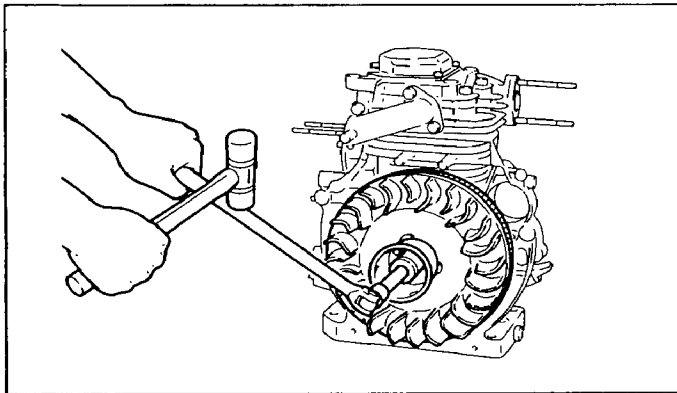
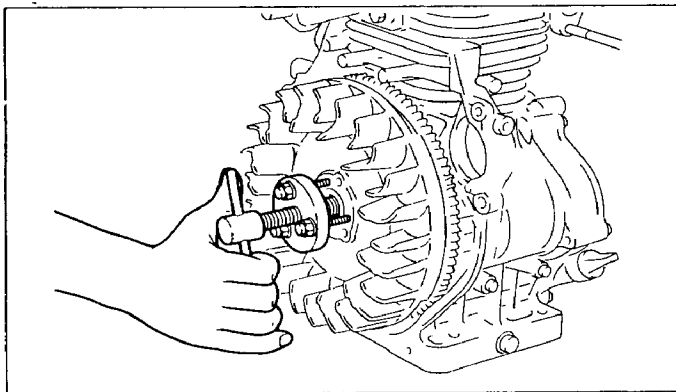
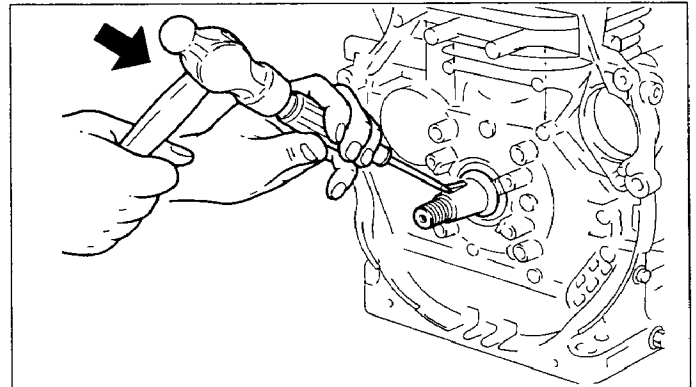

Fig. 26
Fig. 28
Fig. 29
| 18 | Flywheel | (1) Remove nut from crankshaft. M16 nut ···· 1pce. (See Fig. 26.) (2) Remove the starting pulley. M8 × 12mm bolt ···· 3pcs. (3) Remove flywheel using flywheel puller. (See Fig. 28.) (4) Remove the key from crankshaft. (See Fig. 29.) | Flywheel can easily be removed by striking the head of the center bolt of the flywheel puller with a hammer. Be careful not to lose the key. | 24mm socket wrench 12mm socket wrench |